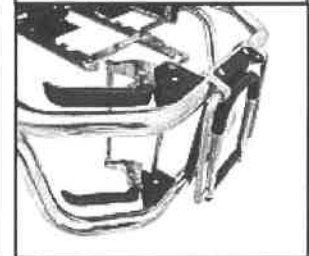

Figure 6 - Control Handle Versions
- **Location:** There are three control handles: an upper and a lower handle at the cot foot end, and a side control handle at the patient's right side (Figures 6 and 7).